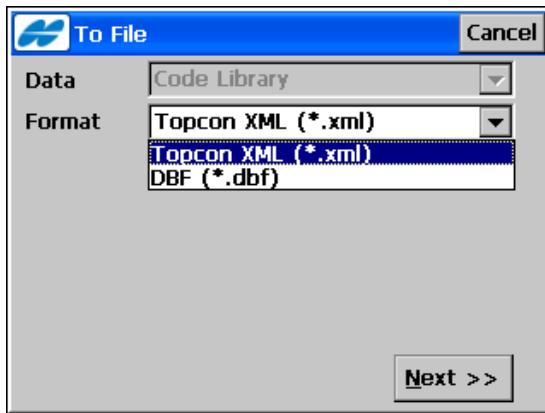

Figure 6-17. Export to Code Library
- The **Help** Icon in the upper-left corner of the screen opens the pop-up menu containing the *Export To File* option. The **To File** screen (Figure 6-17) displays to export the code library to the selected file format.
On the **To File** screen (Figure 6-17) select the file format from which to export codes of the current job. The **Next** button runs the export process.